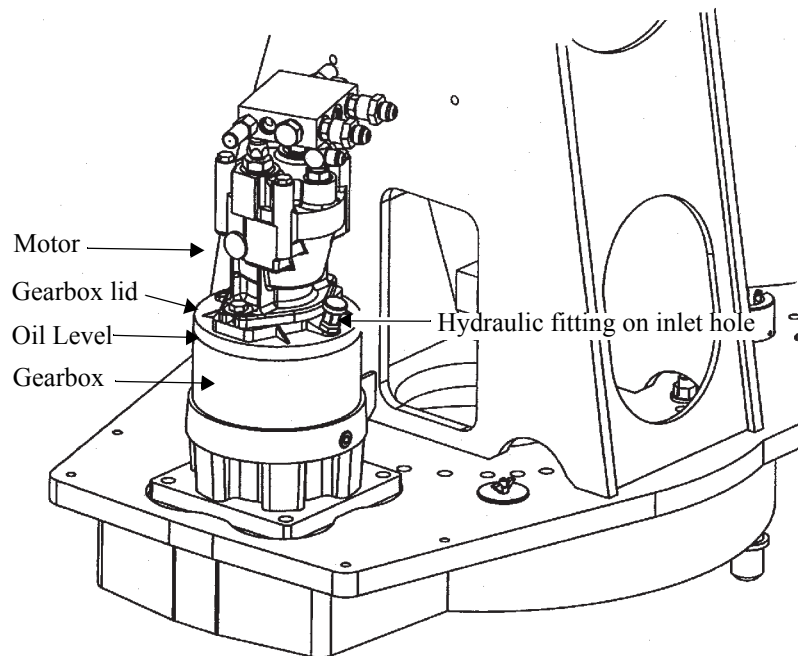

Figure 26 - Swing drive component identification
2. Look in the inlet hole. The oil should come to the bottom of the gearbox lid as shown in *Figure 26*, above. This completely covers the gear with oil.